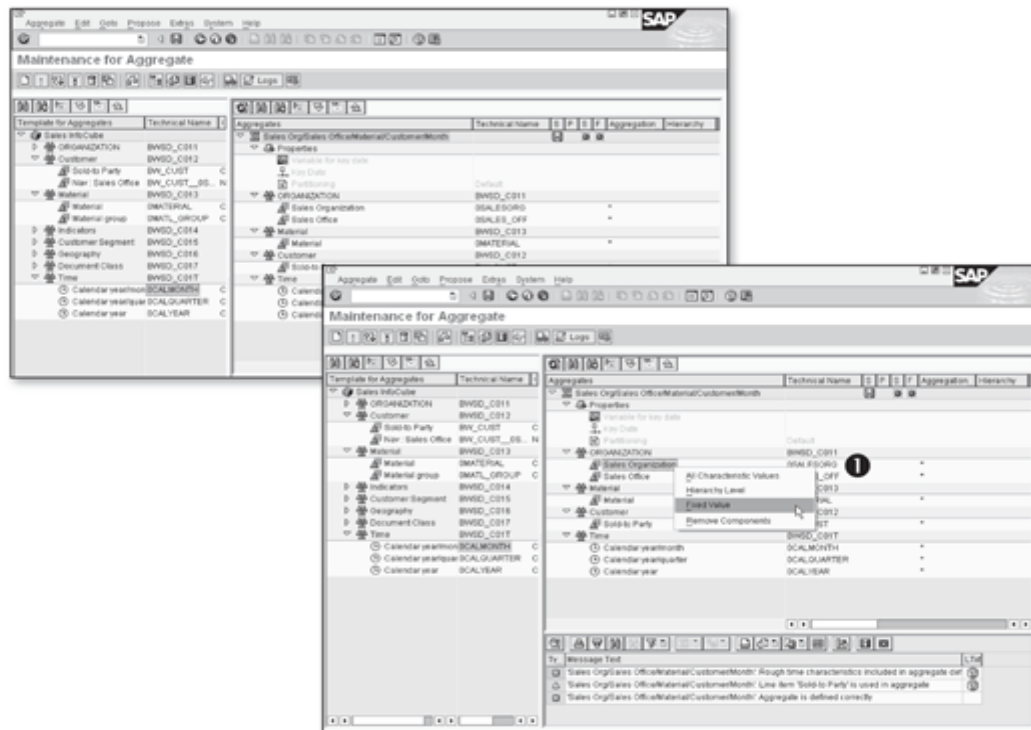

Figure 14.23 Define Fixed Value for a Characteristic in an Aggregate
Business requirements might require analysis to determine the need of an aggregate for specific values of characteristics. For example, assume a specific group of users always runs the query for Sales Organization = Europe. In this case, the sales organization characteristic should be restricted to a fixed value of Europe in the aggregate. To do this, choose the option Fixed Value from the context menu of the characteristic in the aggregate definition (❶ of Figure 14.23) and select Europe from the list in the pop-up box. However, our scenario doesn't need to have a fixed value, thus we don't use the option.